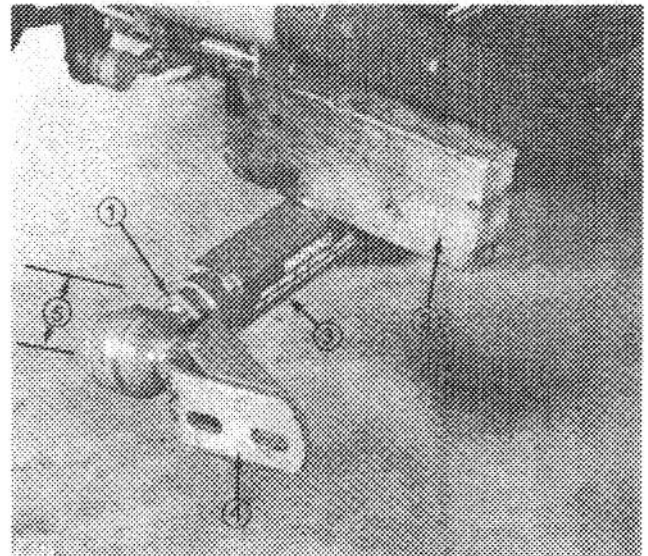

Figure 19
4. Have a helper push down on the left push arm. Then insert a 2 x 4 in. (51 x 102 mm) block of wood between the frame and top of the push arm (Fig. 19). Screw ball joint into left hand push arm until center of ball joint is 2-3/8 inches (60 mm) away from front of push arm (Fig.19). Do not tighten jam nut.